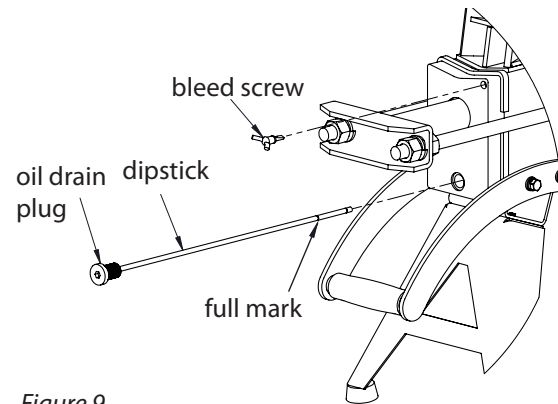

Figure 9
2. Remove oil drain bolt and dipstick. Make sure bleed screw is closed tight. **(SEE FIGURE 9)**